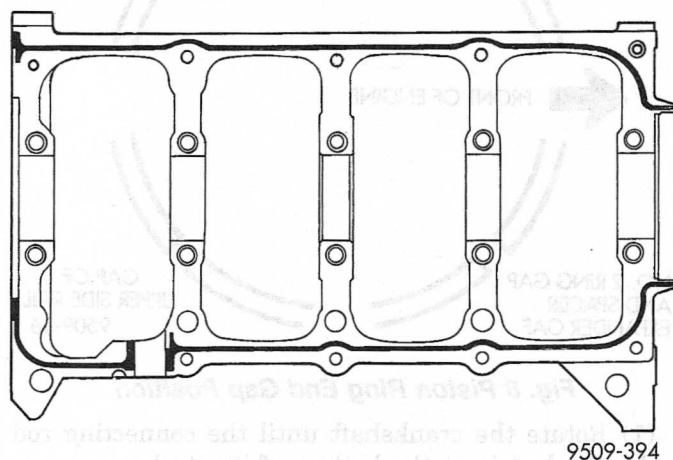

Fig. 12 Main Bearing Caps/Bedplate Sealing
(4) Apply 1.5 to 2.0 nun (0.059 to 0.078 in.) bead of anaerobic sealer Mopar® Torque Cure Gasket Maker to cylinder block as shown in (Fig. 12).